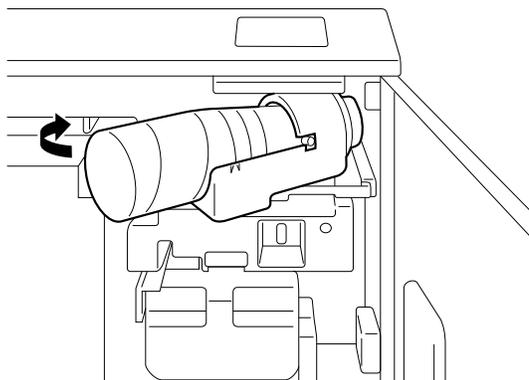

Figure 5-33
6. Swing the Toner Bottle Holder closed and close the Front Door, Figure 5-33.